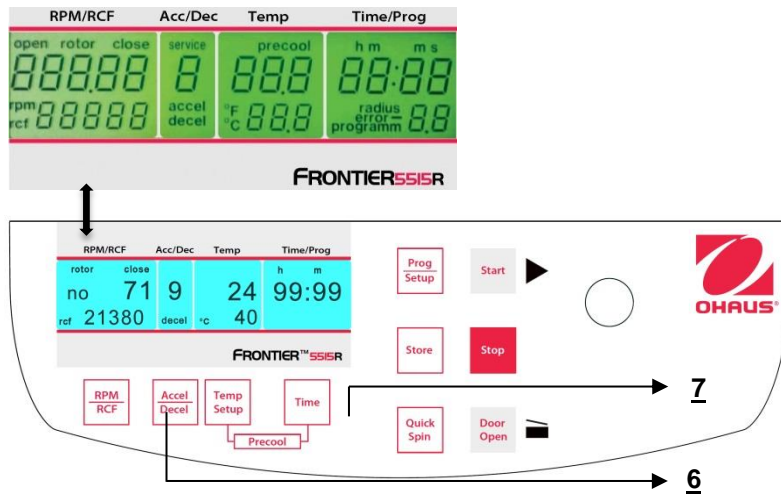

Figure. 30
While the centrifuge is turned off, press simultaneously the keys **"Time"**(6) and **"Door Open"** (7) and turn on the main switch of the centrifuge. Now release both keys and as a result a display test is executed for approx. 5 seconds. All indicators will appear at the same time (See figure 30).